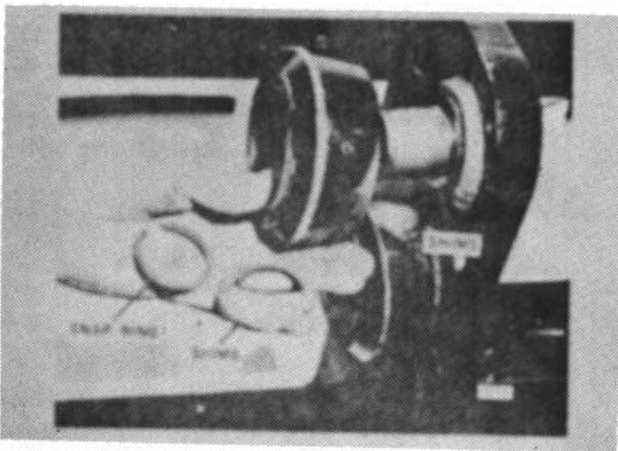

Figure 4.
2. Pull load roller off and note the thickness of the shim packs. (Fig. 4)